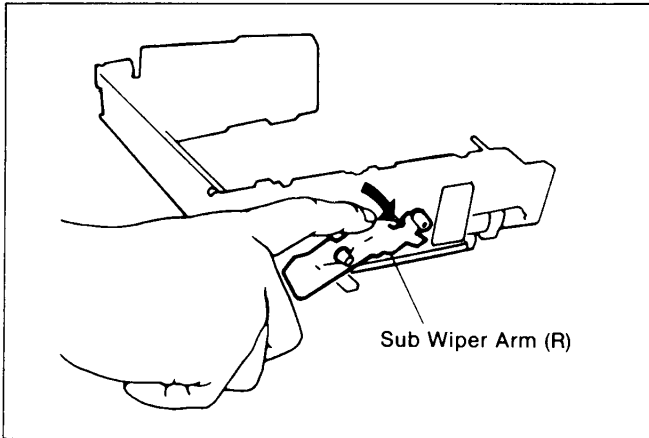

Figure M62
5. Press the sub wiper arm (R) to direction indicated by arrow so that the sub wiper arm (R) comes to cassette down position (STOP) completely as shown in Figure M62 and keep it.